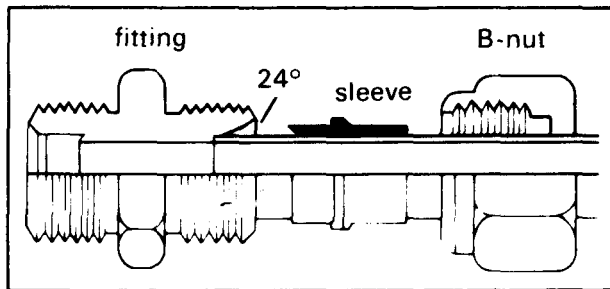
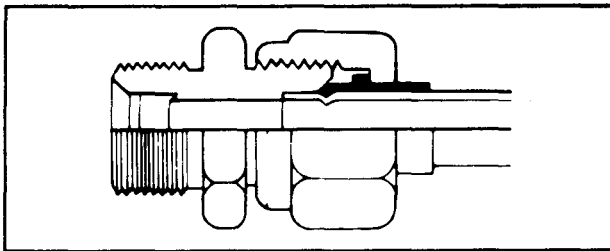

Figure 2-11. Half-sectional view of an MS fitting.
Figure 2-12. MS flareless fitting installed.
Flareless Fittings (MS). These fittings are used to connect unflared tubing. They have a counterbore in which the tube end is installed. Figure 2-11 shows a half-sectional view of an MS fitting. Notice the 24° beveled portion of the counterbore and its seat. The seat forms a slope for the tube during the connection of one tube to another or of a tube to a component. The beveled area causes the tube connector sleeve to seal the connection as the tube B-nut is tightened. See Figure 2-12 for an MS fitting properly installed.